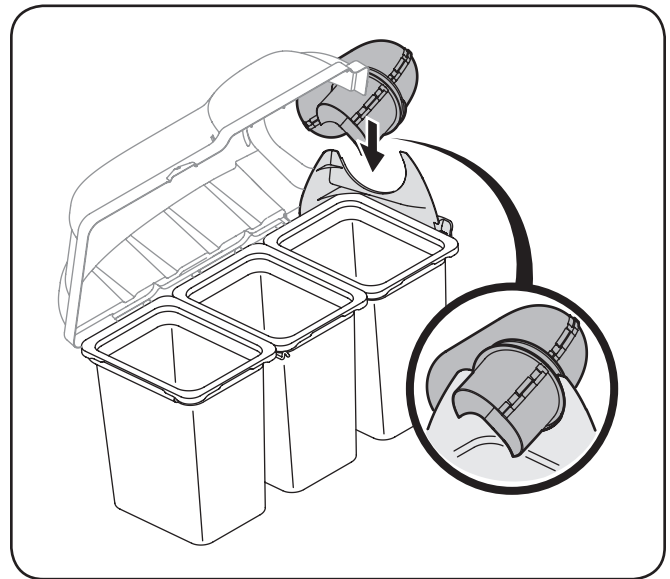

Figure 4-22
7. With the bagger cover open, insert the upper chute tube into the discharge chute then pivot the upper chute tube into position so that the chute rests in the upper chute support. See Figure 4-22.